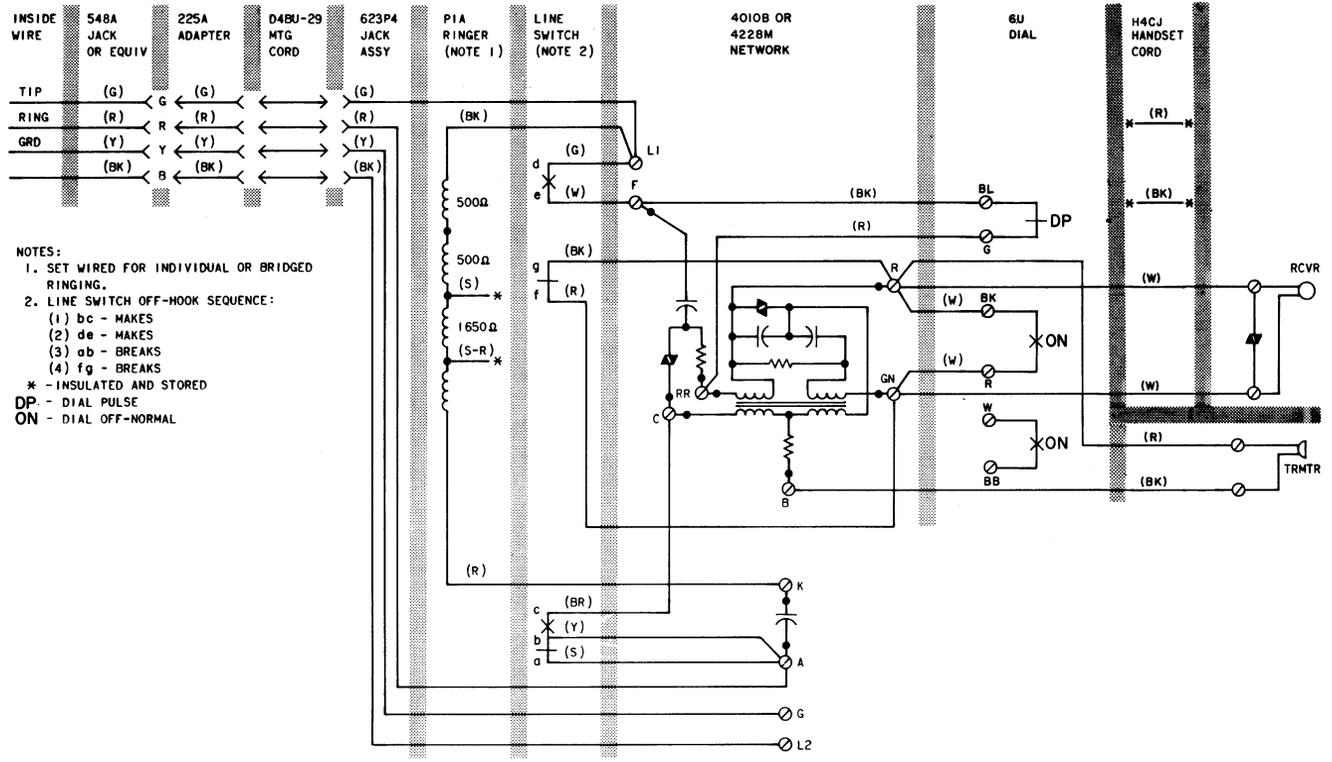

Fig. 7—881A105, 881A106, 881A107, or 881A108 Telephone Set, Connections
- Change Fig. 7 and 8
3.02 The internal connections for the 881A- and 881B-type telephone sets, for nonkey system use, are shown in Fig. 7 and 9.
3.03 Connections for 1A KTS do not require any telephone set modifications and are wired same as Fig. 7.